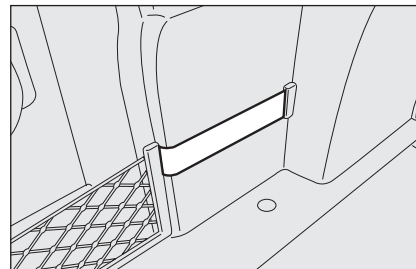

fig. 15
- **fig. 15** - fixing elastic.